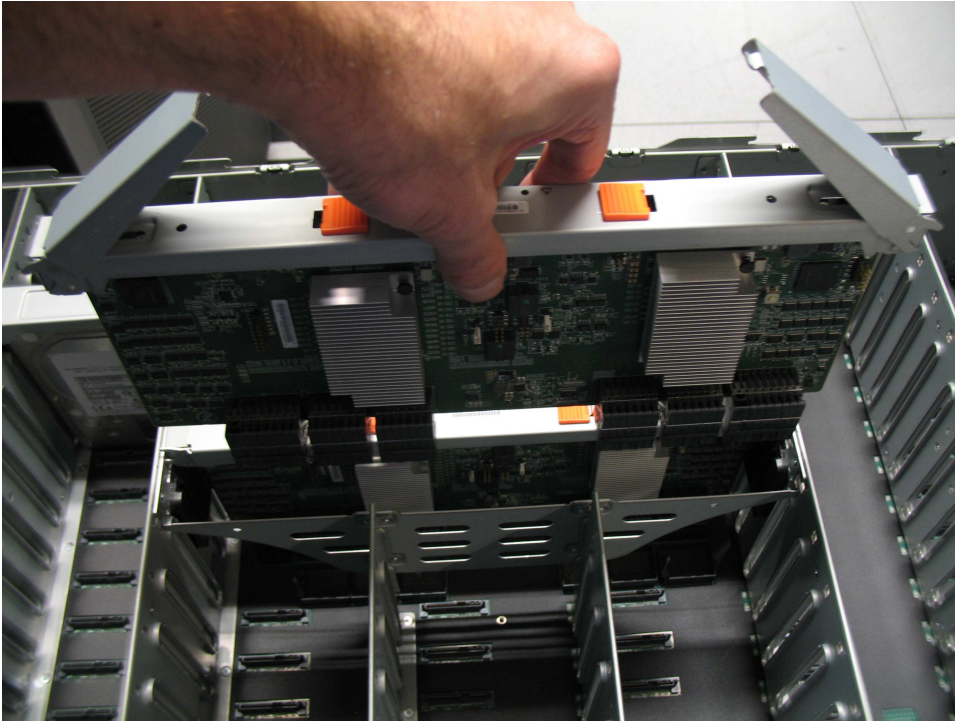

Figure 115. Replace the secondary expander module
4. Align the edges of the secondary expander module carefully in the guide slot in the enclosure, as shown in Figure 115 on page 251.